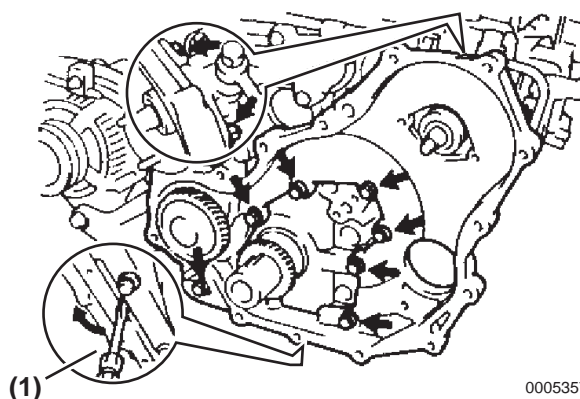

Figure 8-5
7. Insert a screwdriver (**Figure 8-5, (1)**) between the oil pump and cylinder block and pry to remove the oil pump.